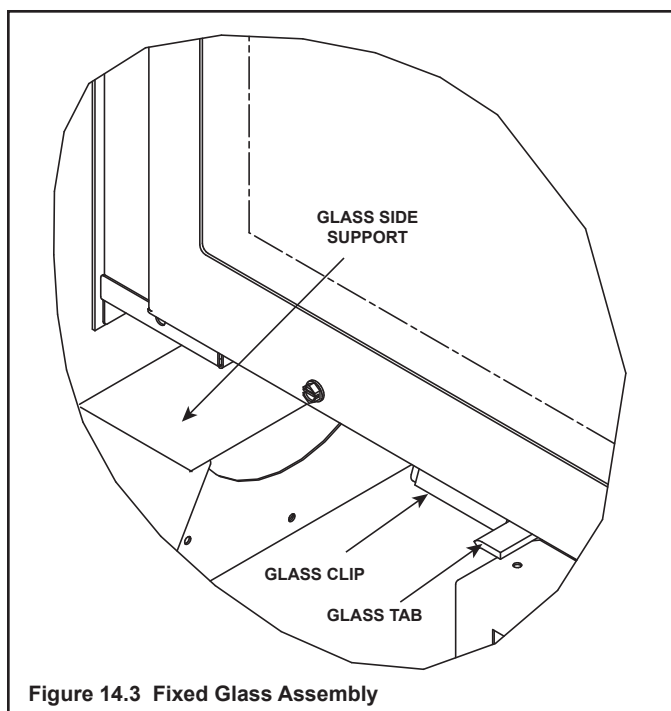

Figure 14.3 Fixed Glass Assembly
3. Use both index fingers to release spring latches. See Figure 14.3.
4. Allow glass to tilt forward. Grasp glass on the upper return lip of glass frame and tilt glass “out” and “down”. Lower gently to rest on side supports. See Figure 14.3. Allow top of glass assembly to tilt forward. Lift glass assembly “up” and “out”.
4. Hold bottom of the glass as you allow the glass assembly to seat over the four lower glass clips. See Figure 14.3.